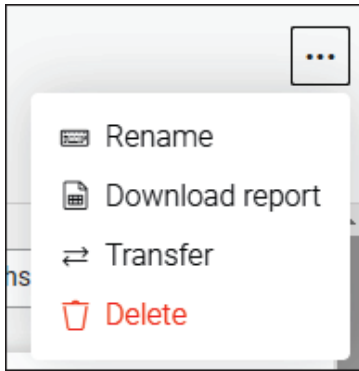

Figure 65. Transferring Device Option
4. Click on the “...” button on the top right menu and select “Transfer”. See **Figure 65**.